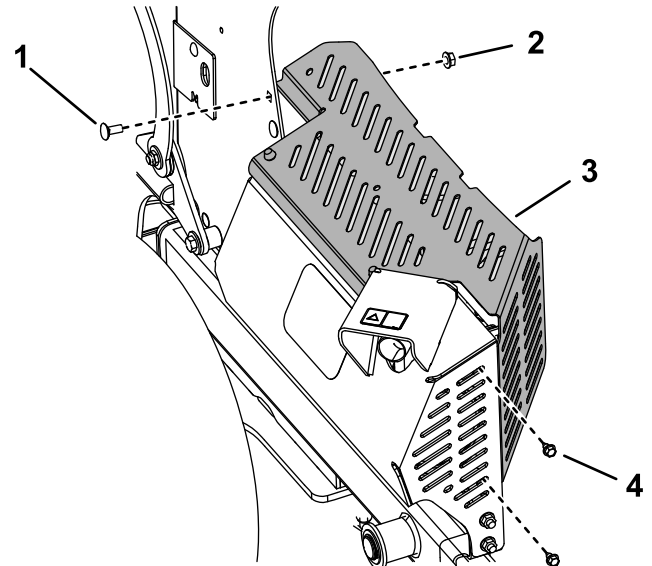

Figure 29
12. Remove the heat shield (Figure 29).